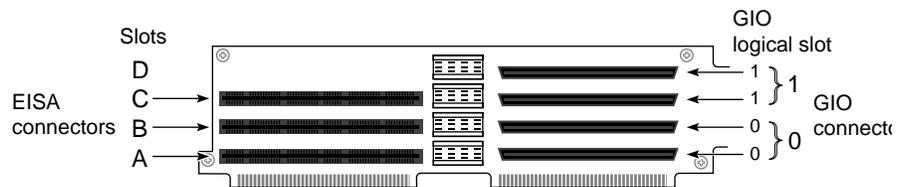

Figure 1-9 Identifying Board Slots
4. Install the new board in the slot above the existing Indigo² IMPACT board or board set. See Table 1-1 and Figure 1-9 for proper board placement.